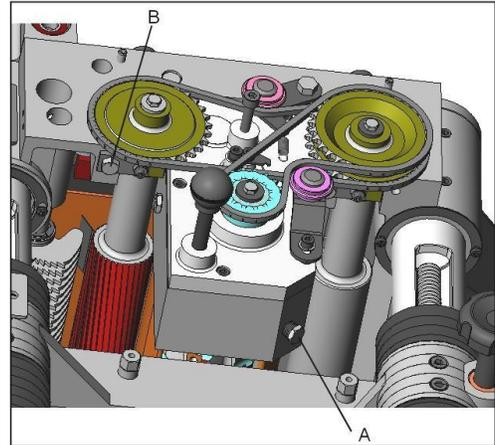

Fig. 32
- After 30 hours or more of work the lubrication of bracket must be changed. (Fig. 32)